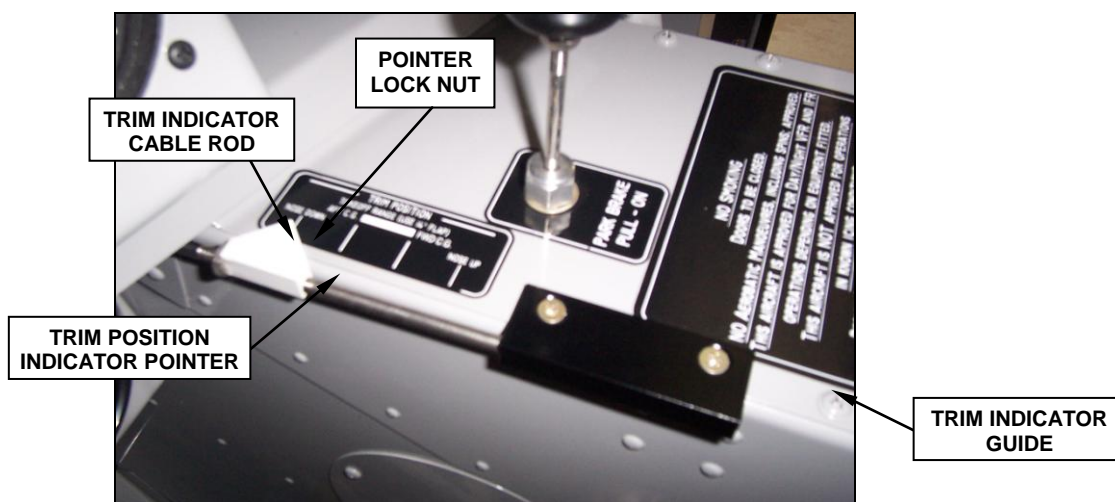

Figure 8
- 4.2. Unscrew and remove the trim indicator guide (refer to figure 8).
- 4.3. Loosen the pointer lock nut and adjust the trim position indicator pointer on the trim indicator cable rod until the middle of the pointer aligns with the nose down mark on the trim position indicator placard (refer to figure 8). Ensure a minimum thread engagement of 4 threads onto the pointer. Tighten the lock nut to secure the location of the trim indicator pointer and reinstall the trim indicator guide.
- 4.4. Alternatively, the trim indicator pointer location may be corrected by locating a new trim position indicator placard P/N GA8-112011-327 with the nose down mark under the trim indicator pointer. Figure 8 shows an example trim position indicator placard installation.